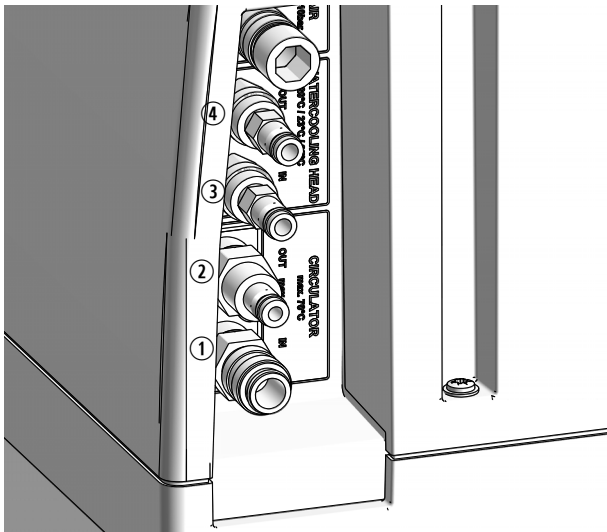

Fig. 14: Hose connections on rear panel to fluid circulator
1. Connect the hose with the flow indicator between the fluid circulator outlet and the connector "Circulator IN" on the rear panel of the MCR (Fig. 14, ①).
2. Connect the second hose between the fluid circulator inlet and the connector "Circulator OUT" on the rear panel of the MCR (Fig. 14, ②).
4. Connect the hose from the circulator outlet to the connector "Watercooling head IN" on the rear panel of the MCR (Fig. 14, ③).
5. Connect the hose from the circulator inlet to the connector "Watercooling head OUT" on the rear panel of the MCR (Fig. 14, ④).
5. Connect the temperature control hose "OUT" of the hood (Fig. 16, ④) to "IN" on the rear panel of the MCR (Fig. 14, ①).
6. Connect "OUT" on the rear panel of the MCR (Fig. 14, ②) to the inlet of the fluid circulator.